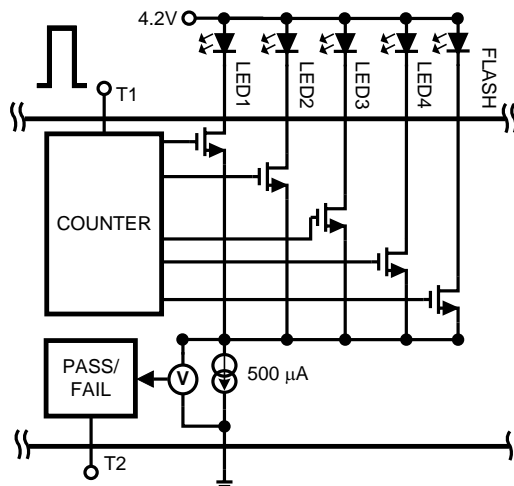

Figure 19. High Level Schematic Representation of the Test Interface
- **Production test 1:** The LP55271 is assembled on a printed wiring board (PWB), but there is no LEDs connected on current sink outputs. An external 4.2V test voltage is supplied on the V_{DD1} and V_{DD2} pins, from which follows that the reset operating mode is entered with POR. Test pin T1 is pulled high. The chip will send an acknowledge “1” onto the T2 pin if the chip is in working order; otherwise T2 stays low (0). Refer to Test Interface Timing Diagram.
- **Production test 2:** The LP55271 is assembled on a PWB with the external components shown in LP55271 Block Diagram. 4.2V voltage is connected to V_{DD1} , V_{DD2} and FB pins (see Figure 19), from which follows that the reset operating mode is entered with POR. Test pin T1 is pulled high. The chip will send an acknowledge “1” onto the T2 pin if the chip is in working order; otherwise T2 stays low (0). If the ACK is “1”, a repetitive test pattern “0-1-0-1-0-1-0-1-0-1-0-1-0-1” is applied to T1 pin and if the LED corresponding the pattern (see Test Interface Timing Diagram) is connected properly T2 gives “1”, otherwise T2 stays low. The last “1” disengages the test.